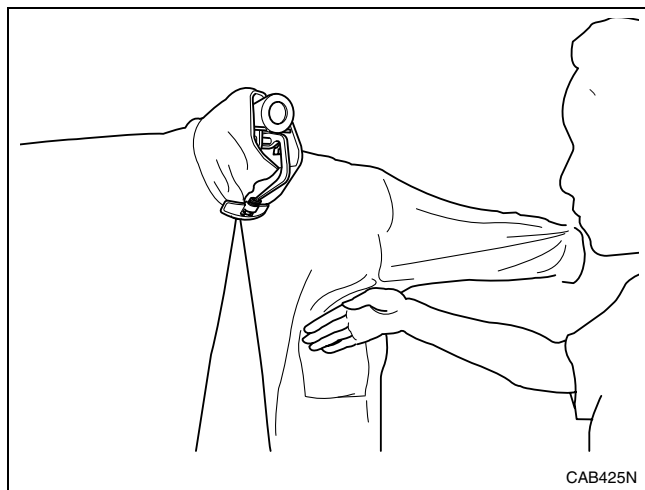

Figure 16
14. If necessary, move your hand in an upward direction over the pocket to remove any air trapped inside. Refer to *Figure 16*.